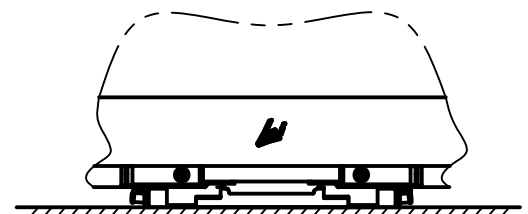

FIGURE. 9
10. TIGHTEN 2 CLAMP SCREWS EVENLY. SEE FIGURE 9.